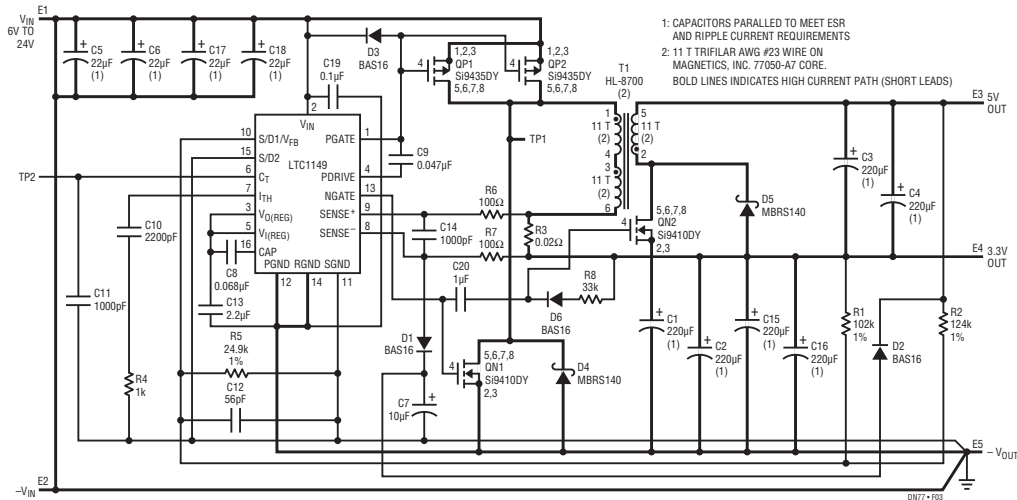

Figure 3. Single LTC1149 Provides 3.3V and 5V in SMT
The schematic diagram is given in Figure 3. For the principles of operation, please refer to DN72 (copies are available from any LTC representative). One significant difference between this circuit and that of DN72 is that QN2's gate drive is AC-coupled, ensuring full enhancement of QN2 even at low input voltages. The circuit as shown operates down to $V_{IN} = 7V$. Adding two 220 μF capacitors in parallel with C3/C4 extends minimum V_{IN} to 6V or less.
The circuit of Figure 3 is the result of a significant R&D effort by LTC, providing a 3.3V/5V power solution combining performance and price benefits with manufacturability and reliability. At the same time the circuit flexible enough to accommodate a number of variations. Some of these are:
- Figure 3 shows several ground lines. These should be run separately (single point ground). Heavy line widths in the schematic indicate wide power and ground traces on the PC board.